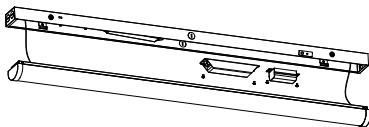

Figure 15
Step 2. Assemble the backup driver to the lamp chassis (Figure 15)